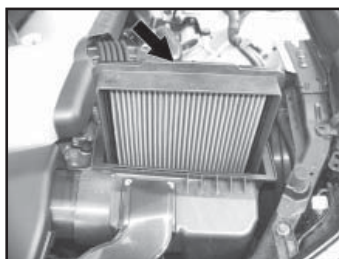
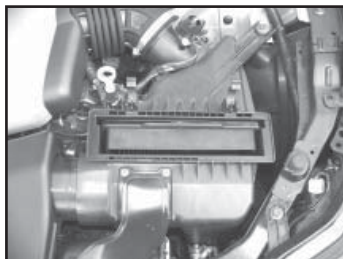

Fig. 5
Fig. 6
7. Using the tab on the plastic cage, (Fig 5) slide the K&N filter into the air box (Fig 6).